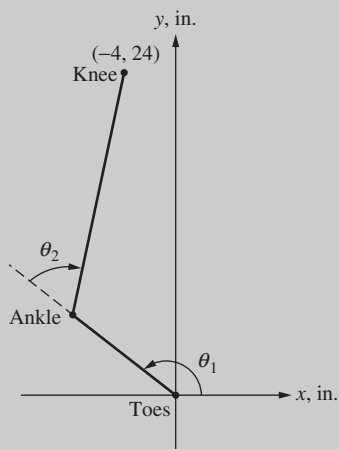

Figure 3.38 Position of the runner's leg to find θ_1 and θ_2 .
- (b) Now suppose that the same leg is positioned such that the knee is located in the second quadrant and oriented in the knee-down position (clockwise direction) as shown Fig. 3.38. If the end of the toes is located at $P(x, y) = (-4 \text{ in.}, 24 \text{ in.})$, determine the values of θ_1 and θ_2 .